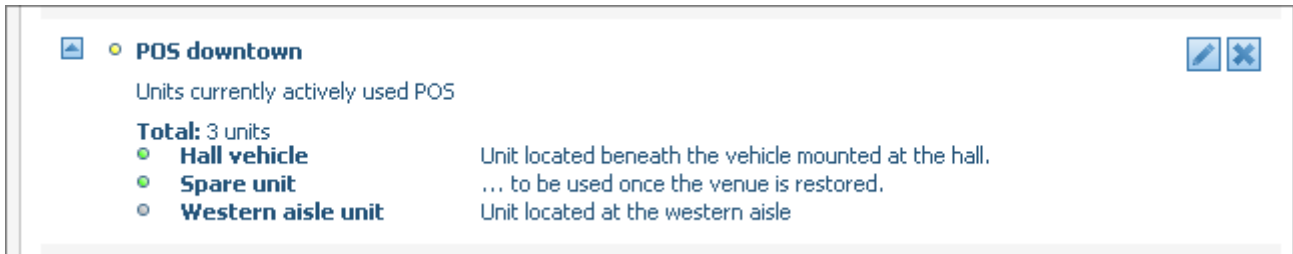

Figure 73: group's details.
3. Information provided for each group in the expanded view includes (Figure 73):